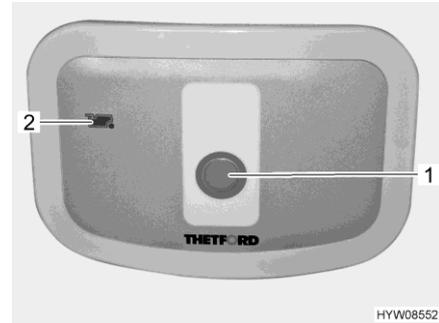

Fig. 162 Flush button/indicator lamp (Thetford toilet)
- For flushing, press the blue flush button (Fig. 162,1).
The indicator lamp (Fig. 162,2) lights up whenever the sewage tank has to be emptied.